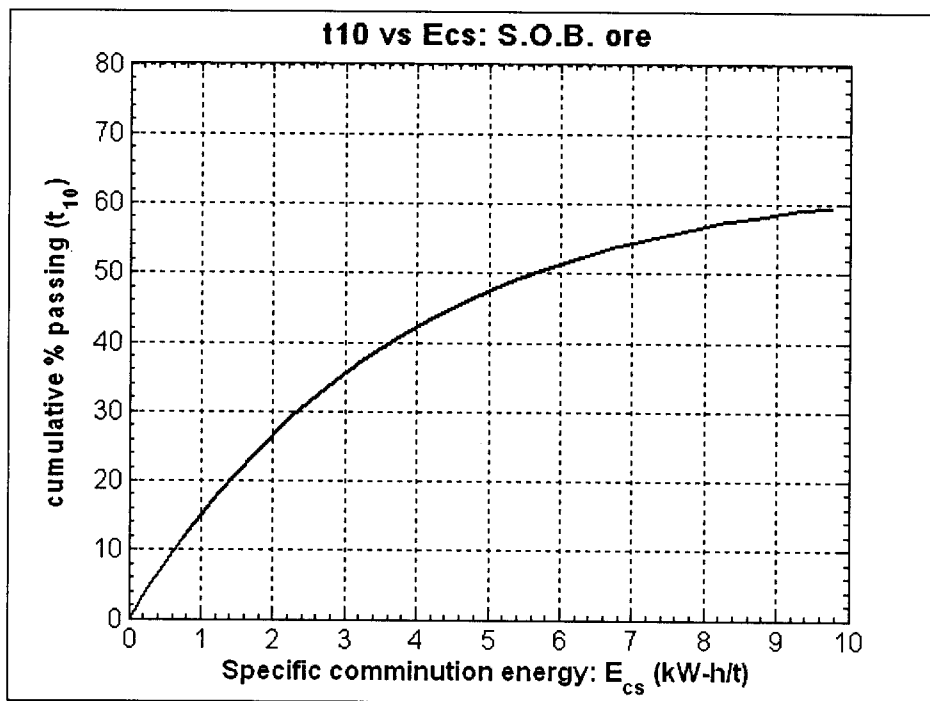
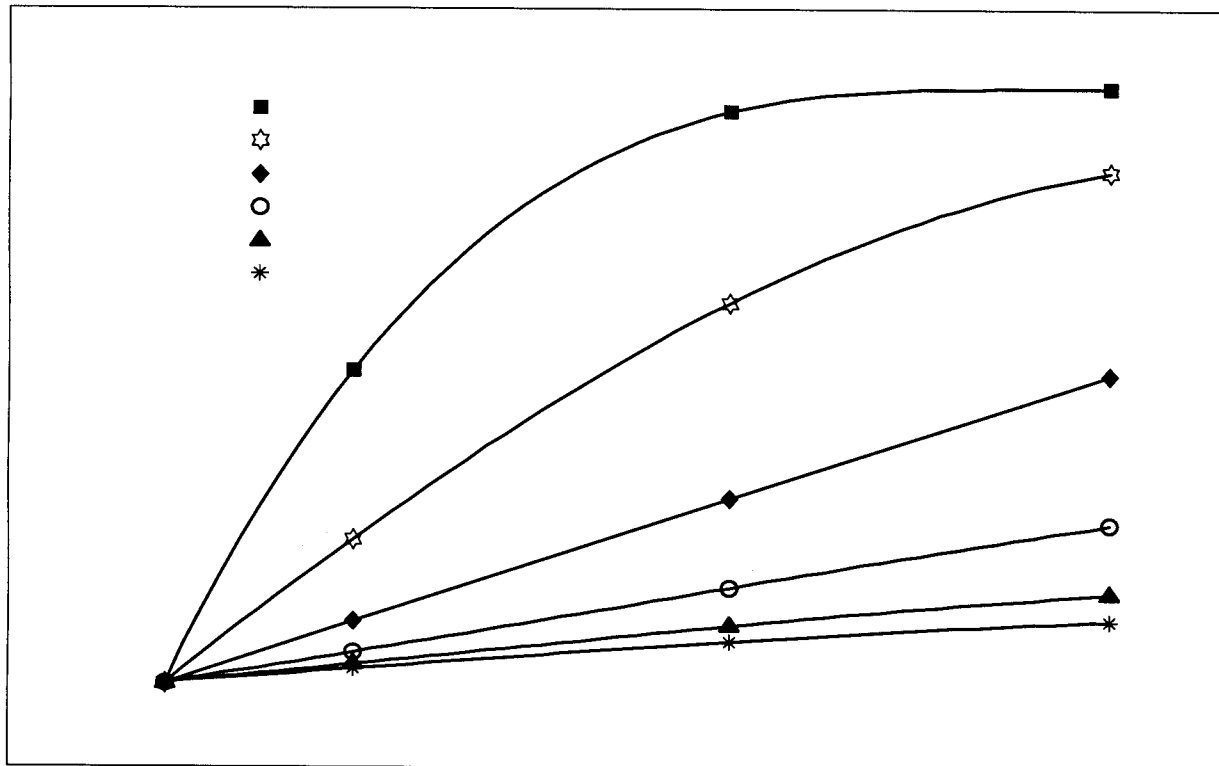

Figure 1: Relationship between  $t_{10}$  and ECS for S.O.B ore
Figure 2: The standard  $t_n$  family of curves for the cu-co ores obtained from ore characterisation tests.
You are in charge of the grinding section at Nkana concentrator. A new section is being mined at S.O.B and shaft is open and you start experiencing problems associated with grind. You request for drop weight tests to be performed on the ore. The technician performed the drop weight tests and then forgets to record the resulting size distribution for you. However, he gives you the energy at which the drop weight test was performed as 2.335 KW h/t which is in fact the specific comminution energy. Information from the breakage of S.O.B is provided in Figure 1 and historical information for the  $t_n$  - family of curves is given in Figure 2.
- (i) Explain the steps you would take to estimate the size distribution resulting from breakage of the S.O.B rock using Figure 1 and Figure 2.
Using Figure 1 and
Figure 2 when the ECS for the Drop weight breakage test was 2.355 KW h/t estimate and plot the size distribution for the S.O.B ore on the log – linear graph paper provide (log on the x-axis).